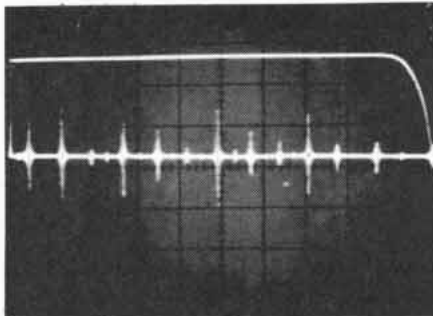
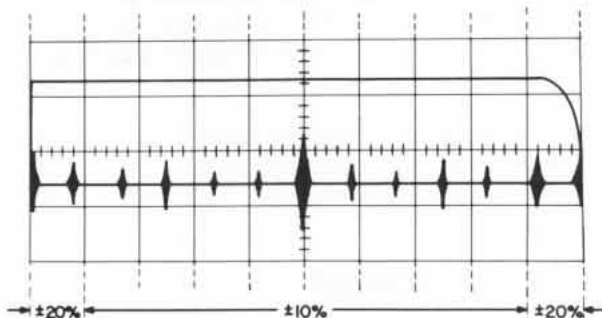

Figure 5-1. Band 5 Linearity Presentation
Figure 5-2. Linearity Limits
d. Adjust oscilloscope presentation as in Figure 5-1. Increase SWEEP WIDTH control so there are six - 2.5 Mc birdies on each side of center sweep and check linearity for limits shown in Figure 5-2.